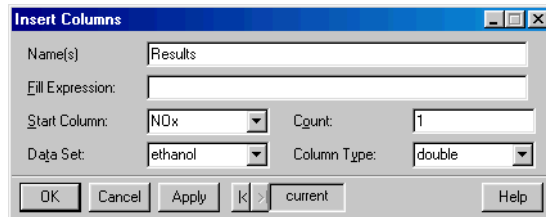

Figure 2.23: *The Insert Columns dialog.*
- From the main menu, choose **Insert ► Column**. The **Insert Columns** dialog opens, as shown in Figure 2.23.